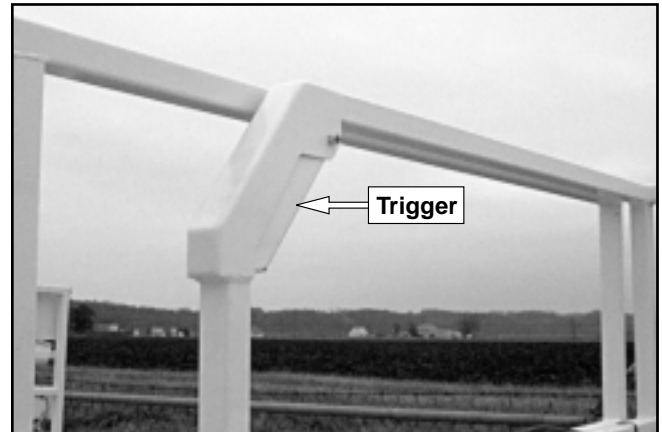

Figure 9.3—Platform Extend Trigger
2. Squeeze and hold the trigger (refer to Figure 9.3) while pushing or pulling on the retractable rails.